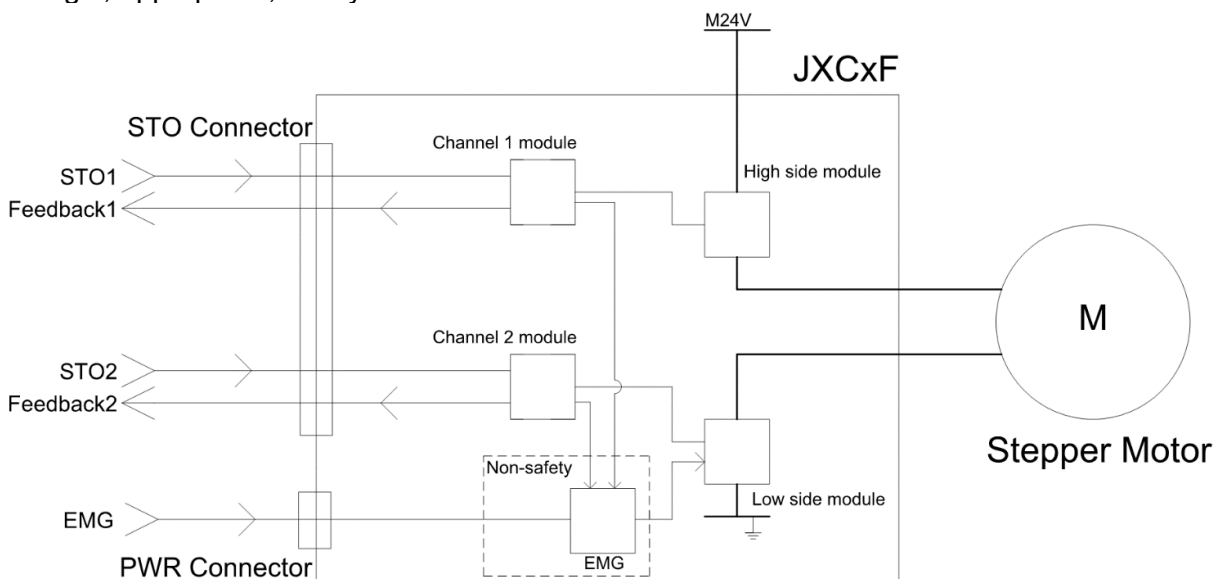

Figure 11-1: General schematic of STO sub-function
- ① STO demand applied.
- ② Internal processing determines STO has been demanded.
- ③ Internal processing applies deceleration from SS1-t sub-function.
- ④ Motor speed reaches zero and stops. EMG then functions to cut the M24V line with a "low-side module"(See Figure 11-1).
- ⑤ The M24V line within the JXC□F is cut at the "low side module" and Feedback2 goes high.
- ⑥ The motor power is removed by cutting off the "low side module" so the motor is open-circuit.
- ⑦ STO of Channel1/2 is activated, M24V line within JXC□F is cut in both "high side module" and "low side module", and Feedback1 becomes high. Feedback1/2 confirm STO has been applied successfully.
- ① STO demand applied on Channel 1 using STO1.
- ② STO demand applied on Channel 2 using STO2.
- ③ EMG internally causes the M24V line within JXC□F to be cut at the low-side module (see Figure 11-1), and Feedback2 goes High.
- ④ The motor power is removed by the "low side module". The motor is open-circuit.
- ⑤ STO of Channel 1 is activated, the M24V line within JXC□F is cut at the "high side module" and Feedback1 goes high.
- ⑥ STO on Channel 2 is activated. Feedback1/2 confirm STO has been applied successfully.